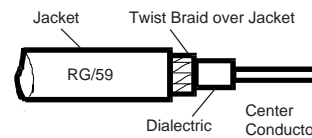

Figure 3B
STEP 6. Push back and twist the braid around the Dielectric until it butts against the cable jacket. See Figure 3B.